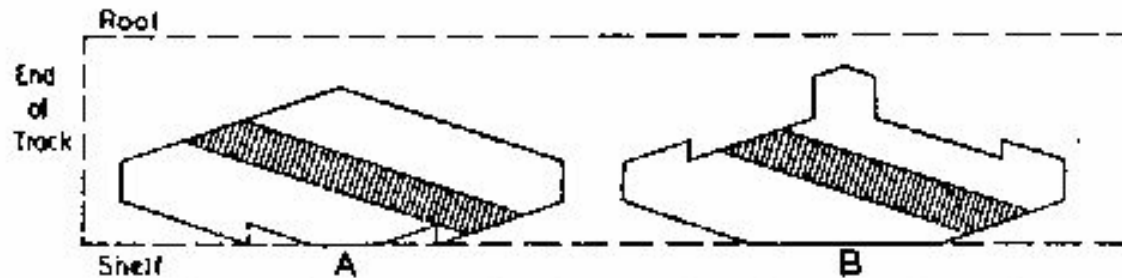

Fig. 1. Elements A and B in neutral positions on the track
**Figure 1 | Self-replication of a 5-bit string.** Frames 1-9 (from left to right in each row): time sequence of photographs showing the autonomous replication of a 5-bit string of electromechanical units, starting from a single initial input string (number 1: green, green, yellow, yellow, green); frame 3: multiple replicants (numbered 1,2) assembling on a single substrate. Addition of building blocks is purely sequential along the string, as governed by a rule running in each block's state machine; frame 9: four independent strings (numbered 1-4) result from the action of templating and division. For movie, see supplementary information.